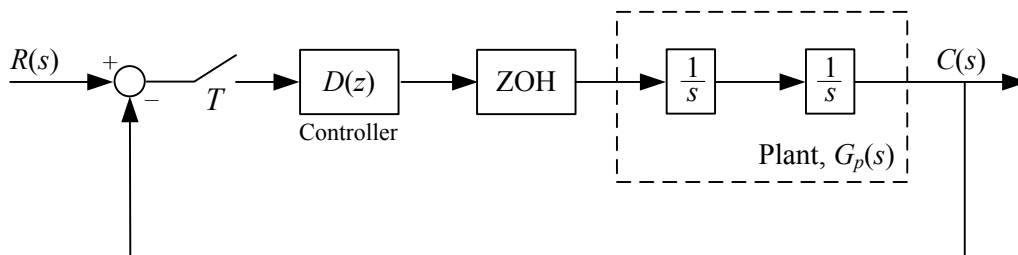

Figure 5: Closed-loop discrete control system.
Figure 5 shows a closed-loop control system, where the controller is a proportional controller, i.e.  $D(z) = K$ . The sampling time is  $T = 3$  sec.
1. Determine the pulse transfer function  $G(z)$  for the system in Figure 5.